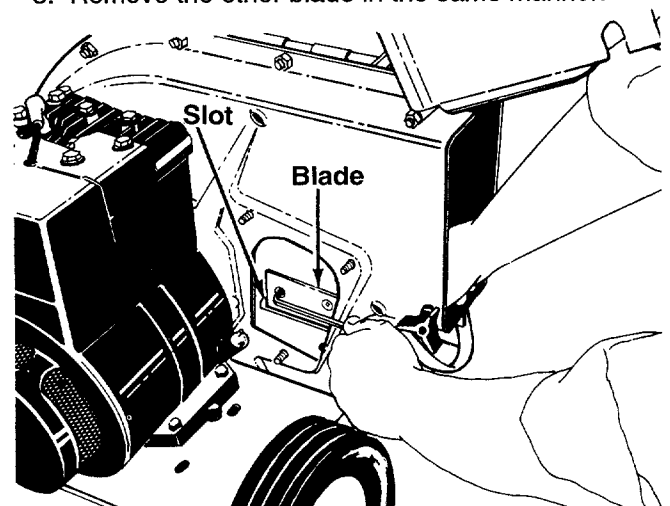

FIGURE 13.
4. Rotate the impeller assembly by hand until you locate one of the chipper blades in the chipper chute opening. Remove the blade, using a 3/16" allen wrench on the outside of the blade and 1/2" wrench on the impeller assembly (inside the housing). See figure 13.